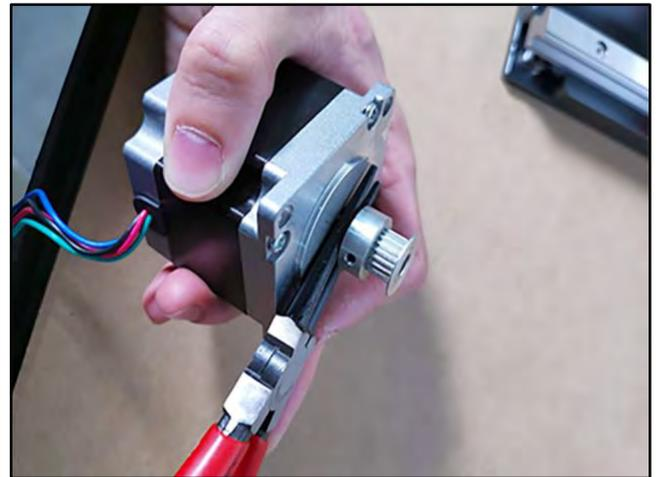

Figure 9
- a. Use a 1.5mm hex key to loosen the two (2) set screws on the drive pulley.
- b. Use even pressure to pry off the drive pulley with a couple of screwdrivers, needle nose pliers, or both. **DO NOT BEND THE DRIVE SHAFT.** See *Fig. 9*.